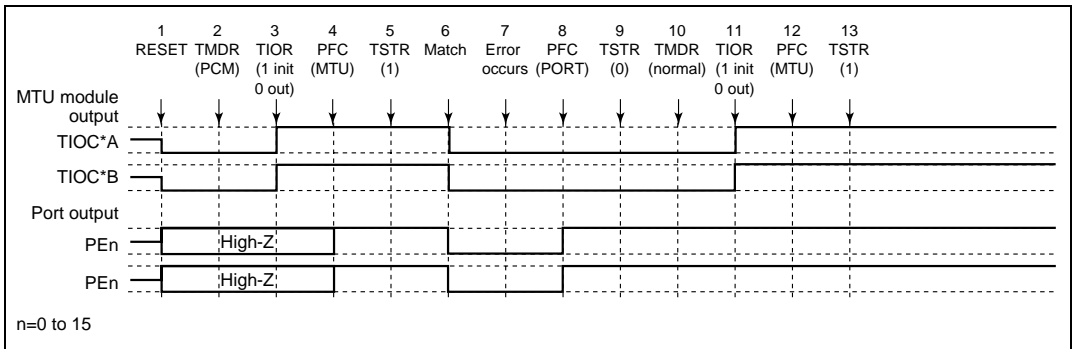

Figure 10.101 Error Occurrence in Phase Counting Mode, Recovery in Normal Mode
(17) Operation when Error Occurs during Phase Counting Mode Operation, and Operation is Restarted in Normal Mode: Figure 10.101 shows an explanatory diagram of the case where an error occurs in phase counting mode and operation is restarted in normal mode after re-setting.
1 to 9 are the same as in Figure 10.101.